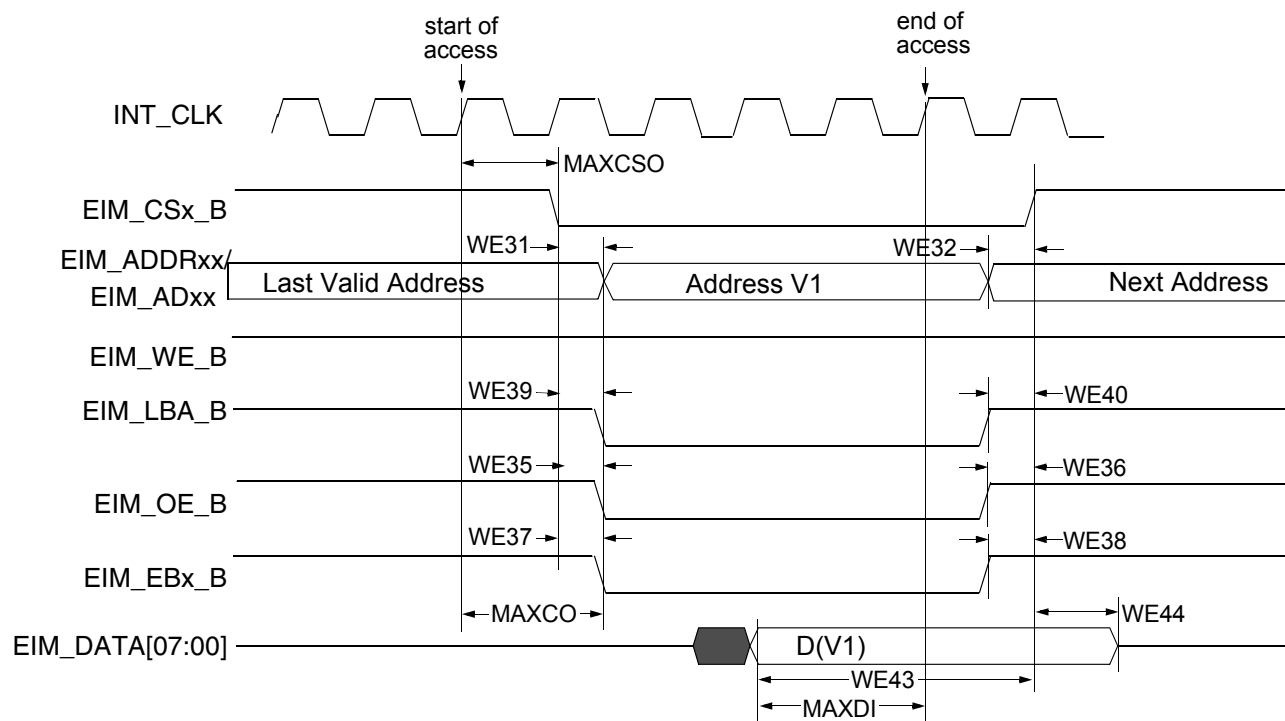
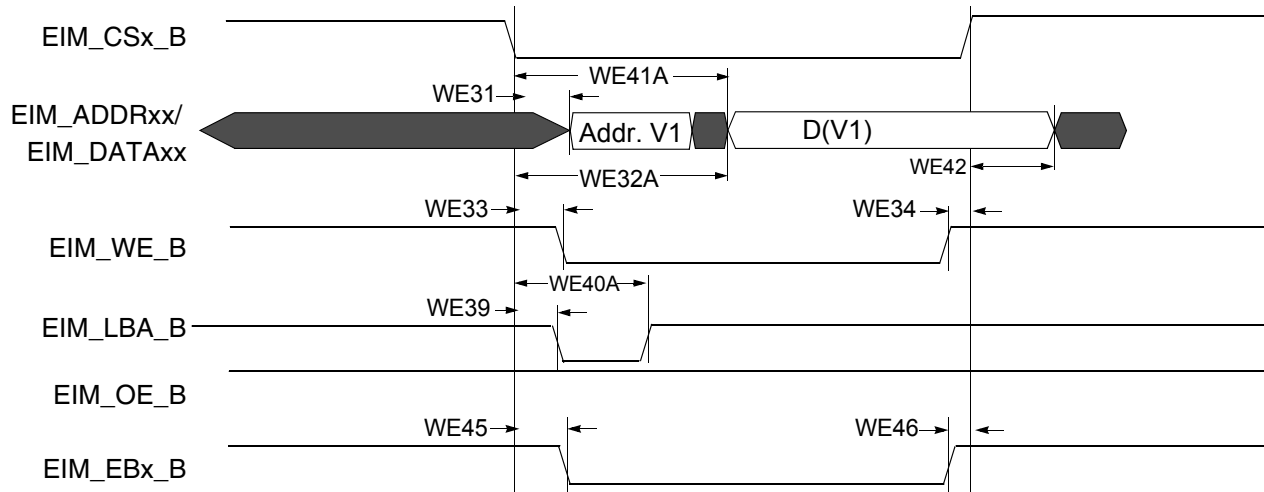
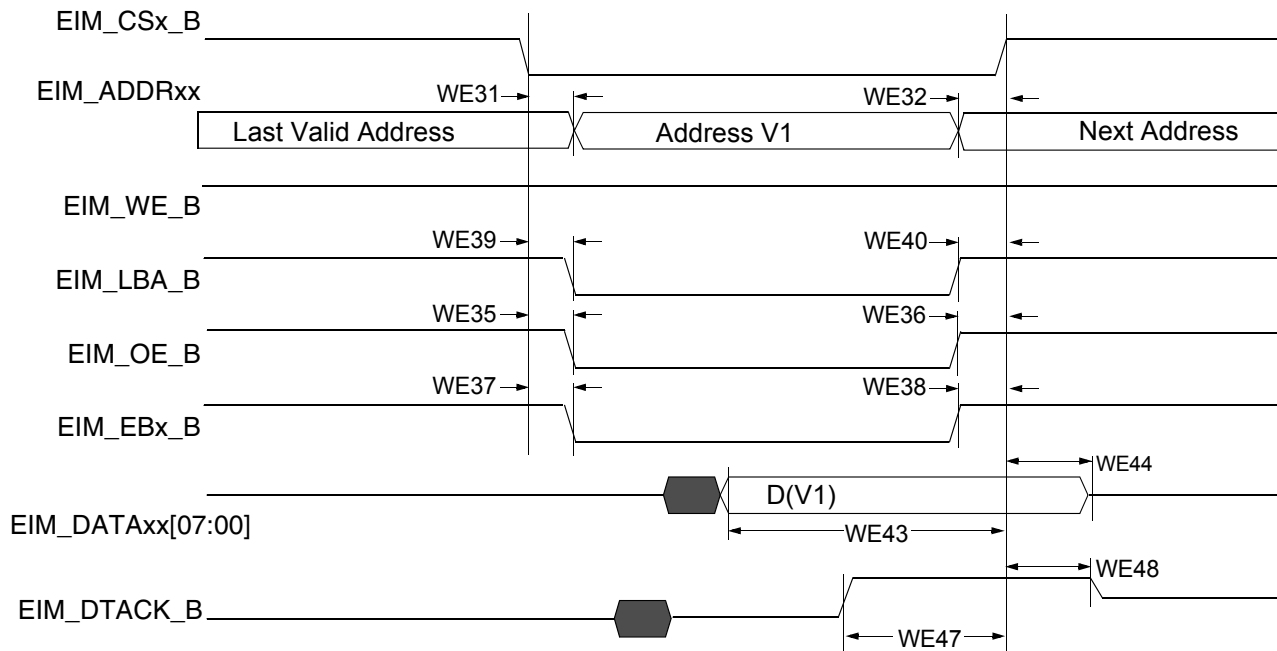

Figure 16. Asynchronous Memory Read Access (RWSC = 5)
Figure 19. Asynchronous A/D Muxed Write Access
Figure 20. DTACK Mode Read Access (DAP=0)
Figure 16 through Figure 20 and Table 34 provide timing parameters relative to the chip select (CS) state for asynchronous and DTACK EIM accesses with corresponding EIM bit fields and the timing parameters mentioned above.
Asynchronous read & write access length in cycles may vary from what is shown in Figure 16 through Figure 19 as RWSC, OEN & CSN is configured differently. See the i.MX 6Dual/6Quad reference manual (IMX6DQRM) for the EIM programming model.